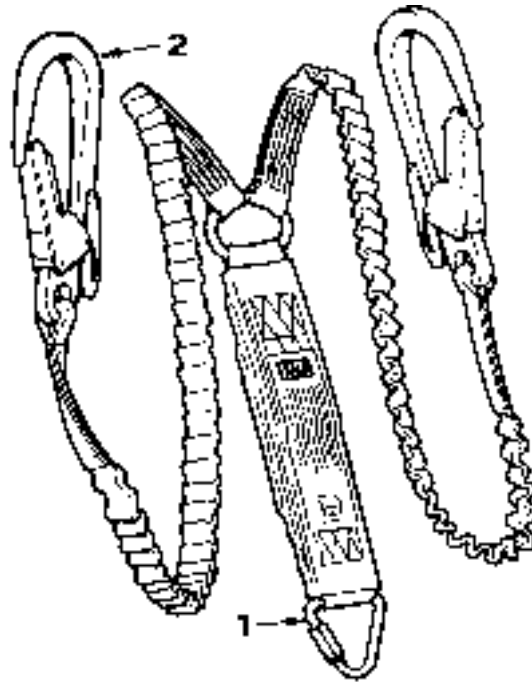

Fig 3
- 6- Attach the delta connector item 1, fig 3 at the twin-tailed lanyard to the chest 'D' on the full body harness. Ensure connector screw-gate is fully closed.
- 9- Reach above you and connect one hook item2, fig 3 to a suitable anchorage on the structure. Allow the hook safety mechanism to engage. Begin ascent. At a point where the first attached hook is still within comfortable reach, reach above and attach the second hook in the same manner as the first. Disconnect the first hook and continue ascending repeating alternate use of the hooks. On completing the ascent attach both hooks as high above you as possible to minimise risk of falling.